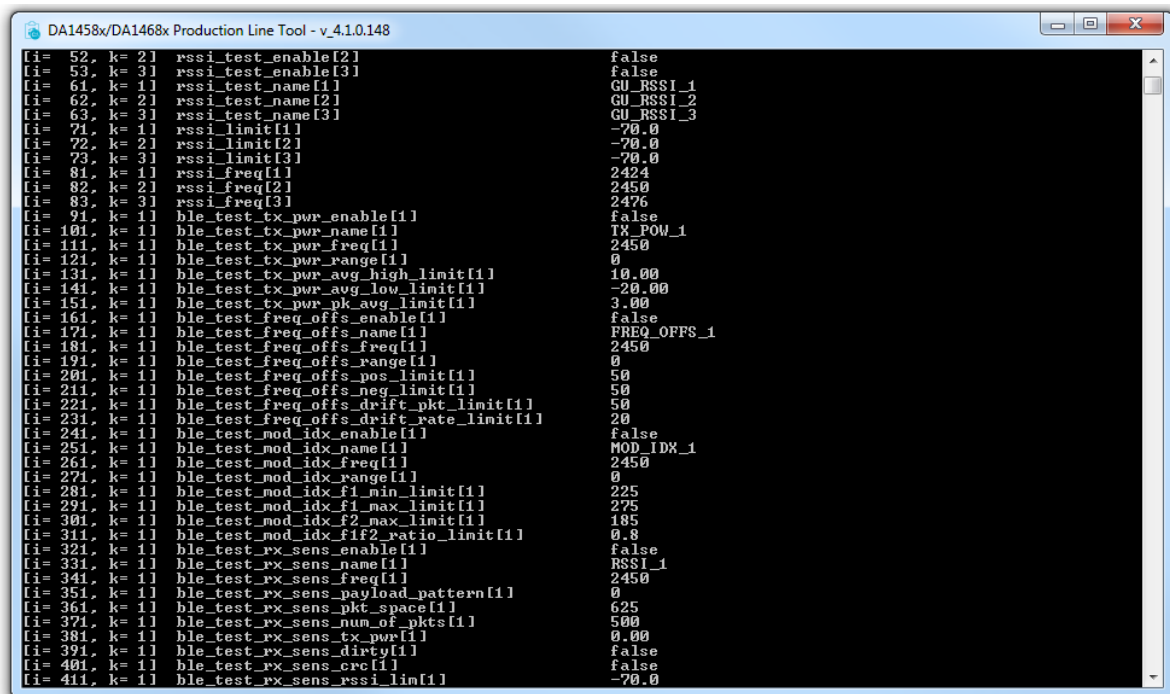

Figure 129: CLI PLT Print Settings (x Command)
- Because the configuration file is automatically loaded, use the 'x' command (Figure 129) to see the loaded settings. Errors will be shown in red.